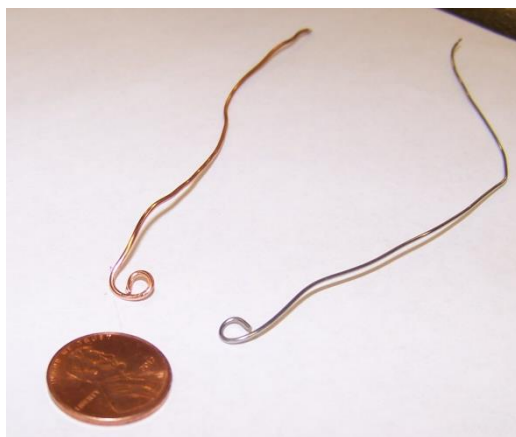

Figure 5. Wire with an appropriate size loop formed at one end
3. Use the pliers to form a small loop on the end of each wire. The loop should be slightly larger than the eraser on the end of a pencil (Figure 5).